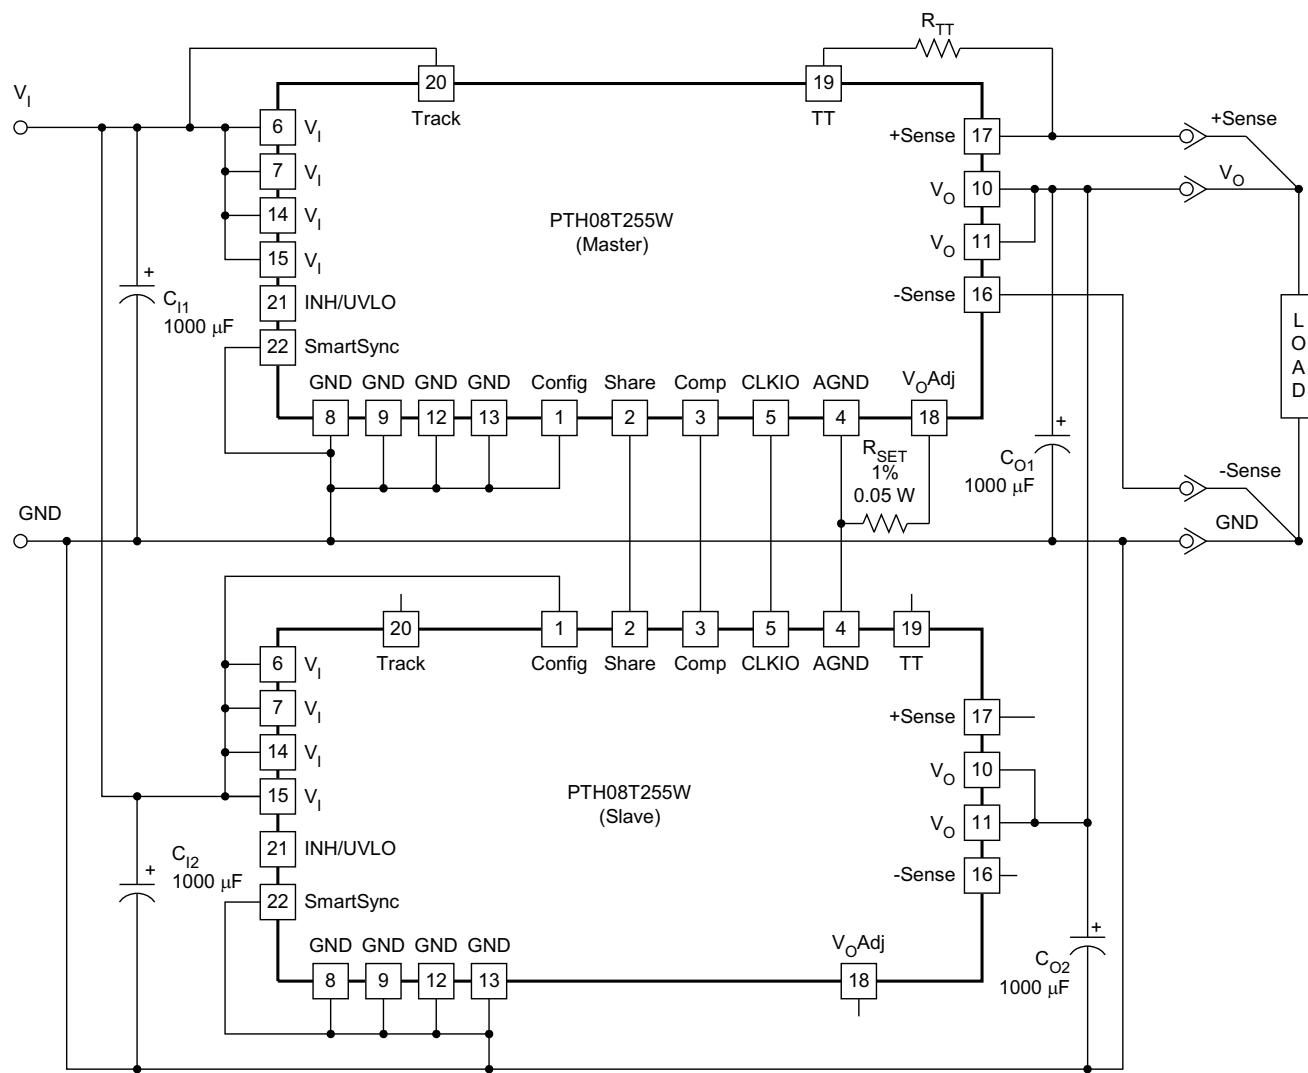
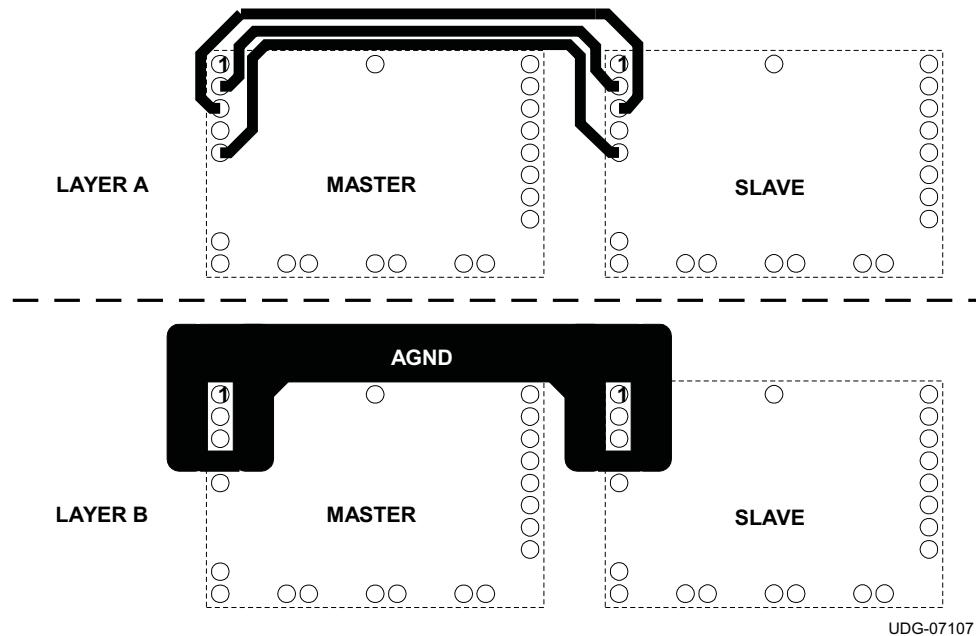

Figure 19. Typical Current Sharing Diagram
Figure 22. Recommended Layout of Inter-Connection Pins Between Two Current Sharing Modules
The PTH08T255W module is capable of being configured in parallel with another PTH08T255W module to share load current. To parallel the two modules, it is necessary to configure one module as the Master and one module as the Slave. To configure a module as the Master, connect the CONFIG pin (pin 1) to GND. The CONFIG pin of the Slave must be connected to V_i . In order to share current, pins 2 thru 5 of both the Master and Slave must be connected between the two modules. See Figure 22 for the recommended layout of pins 2 thru 5. The module that is configured as the MASTER is used to control all of the functions of the two modules including Inhibit ON/OFF control, AutoTrack sequencing, TurboTrans, SmartSync, +/- Remote Sense, and Output Voltage Adjust. See the current sharing diagram in Figure 19 for connections. The MASTER and the SLAVE must be powered from the same input voltage supply.
See Figure 19 and Table 7 for a diagram and connection description of each pin when two PTH08T255W modules are being used in a MASTER/SLAVE configuration.
(1) For more details on the pin descriptions, please refer to the 'Terminal Functions' described in Table 1
(2) See Layer A in Figure 22 for recommended layout
(3) See Layer B in Figure 22 for recommended layout
In current sharing applications the V_I pins of both modules must be connected to the same input bus. The V_O pins of both modules are connected together to power the load. The GND pins of both modules are connected via the GND plane. Four other inter-connection pins are connected between the modules. Figure 22 shows the required layout of the inter-connection pins for two modules configured to share current. Notice that the Share (pin 2) connection is routed between the Comp (pin 3) and CLKIO (pin 5) connections. AGND (pin 4) should be connected as a thicker trace on an adjacent layer, running parallel to pins 2, 3 and 5. AGND must not be connected to the GND plane.